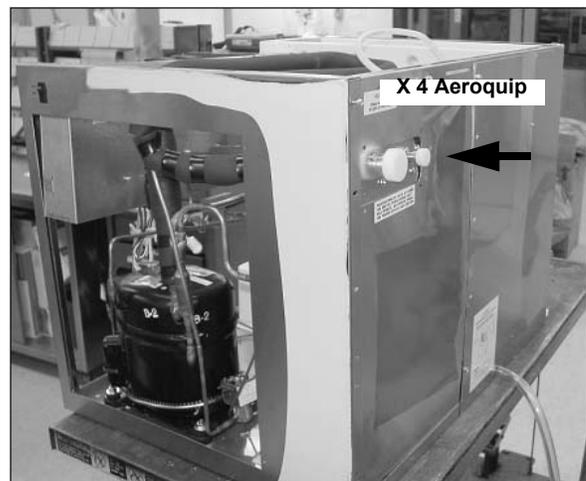

Figure 41.
- 45. Place the back panel in the unit. Attach the Aeroquip bracket with (4) hex head screws (Figure 41).
- 46. Place the right side panel / brace / electrical box assembly (Figure 41).